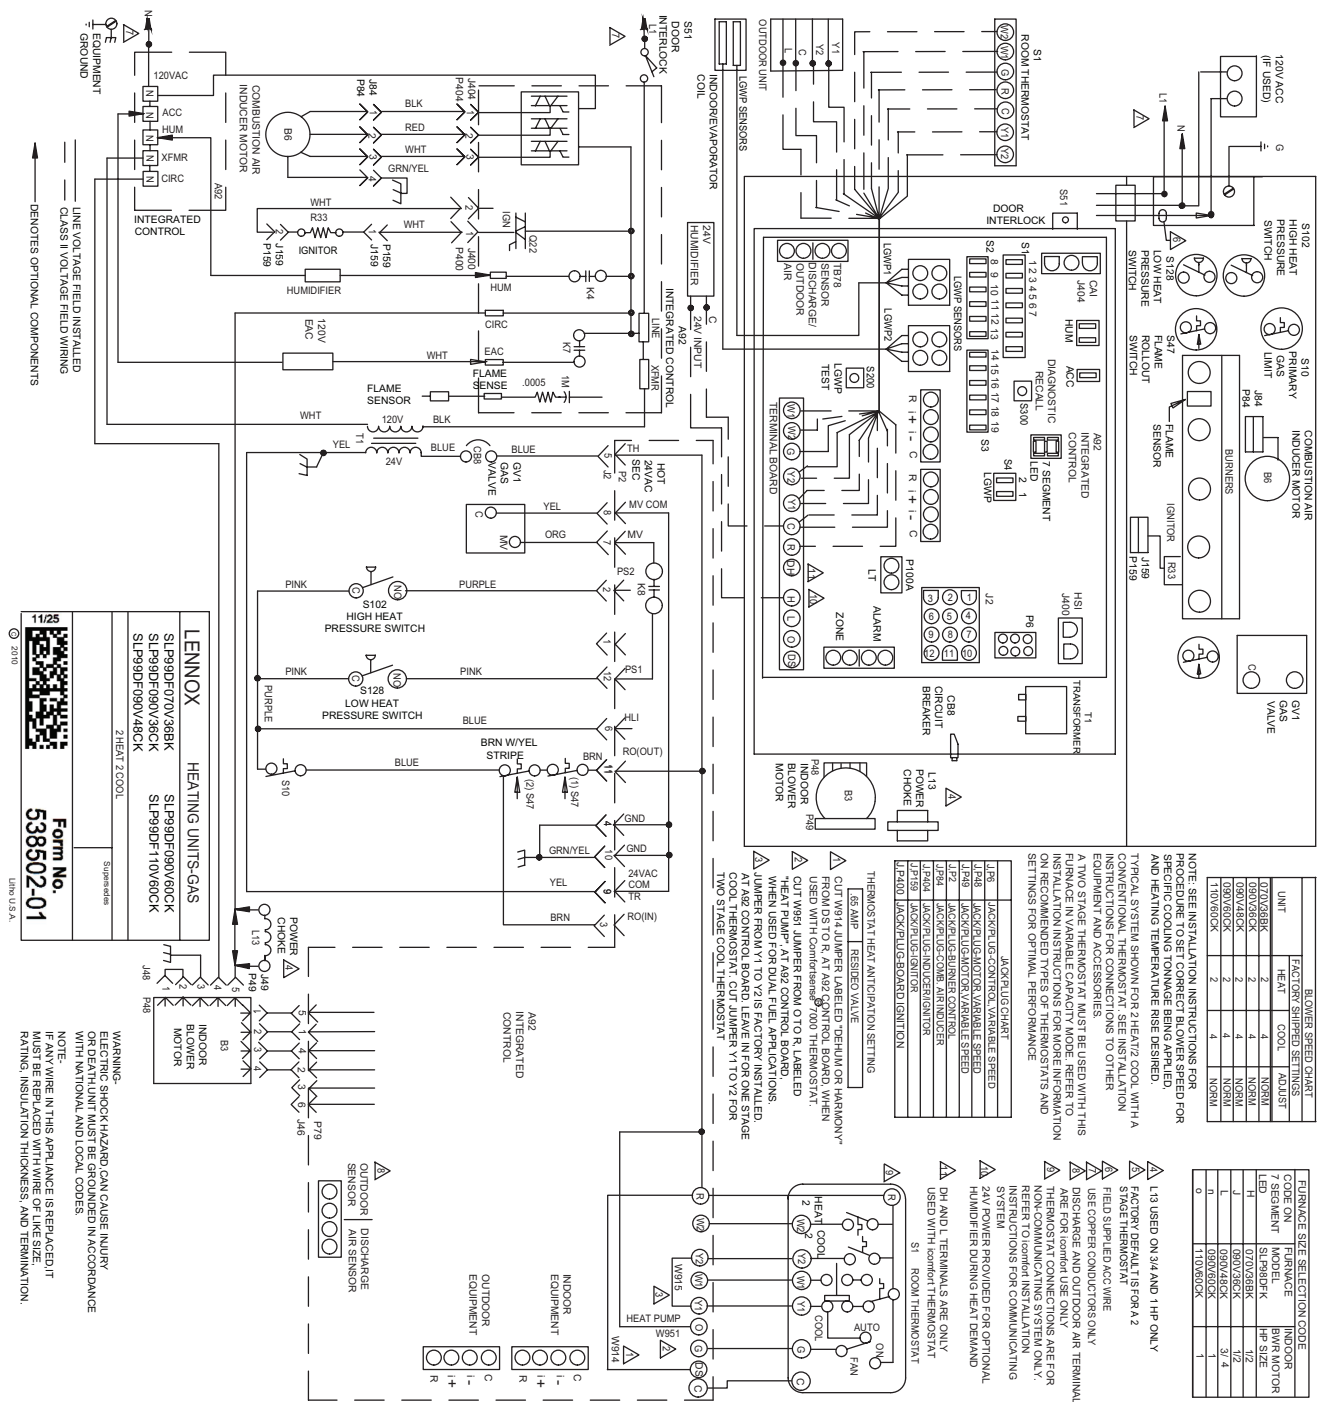

FIGURE 48
- 5 - Complete the wiring connections to the equipment. Use the provided unit wiring diagram and field wiring diagram shown in FIGURE 48 and TABLE 15. Use 18-gauge wire or larger that is suitable for Class II rating for thermostat connections.